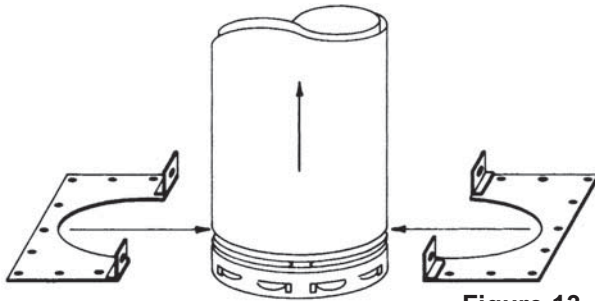

Figure 13
3. Surround the Vent Pipe with the two identical Support Plate halves. See **Figure 13**. Engage the plate edges in the uppermost pipe recess as described in **Step 2**. Use two pair of bolts and nuts to hold the plate halves together. (Four predrilled tabs are provided for this purpose.)